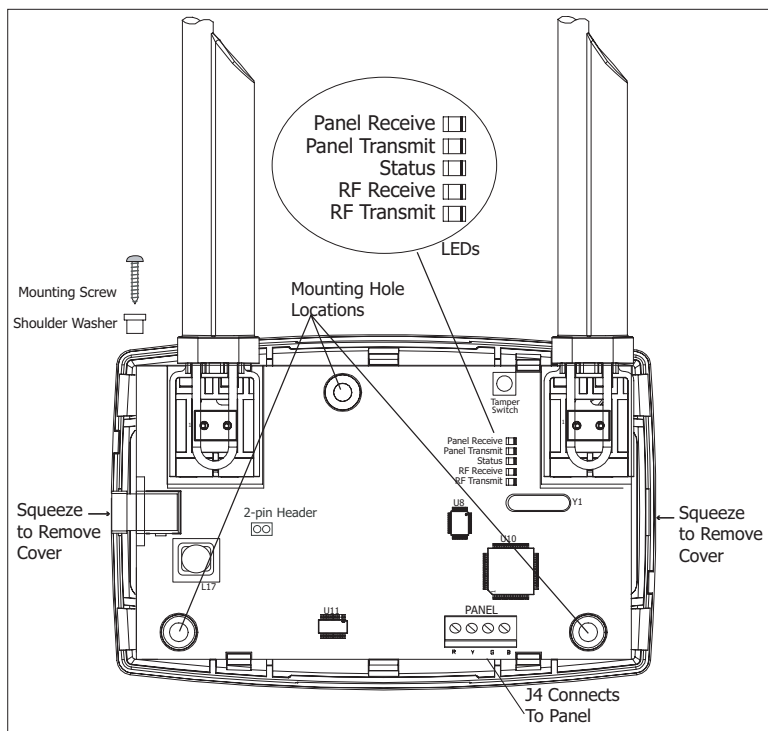

Figure 1: Receiver PCB
2. Secure the receiver to the wall ensuring that the wall tamper switch makes proper contact with the wall. Use the supplied screws in the mounting hole locations as shown in Figure 1.